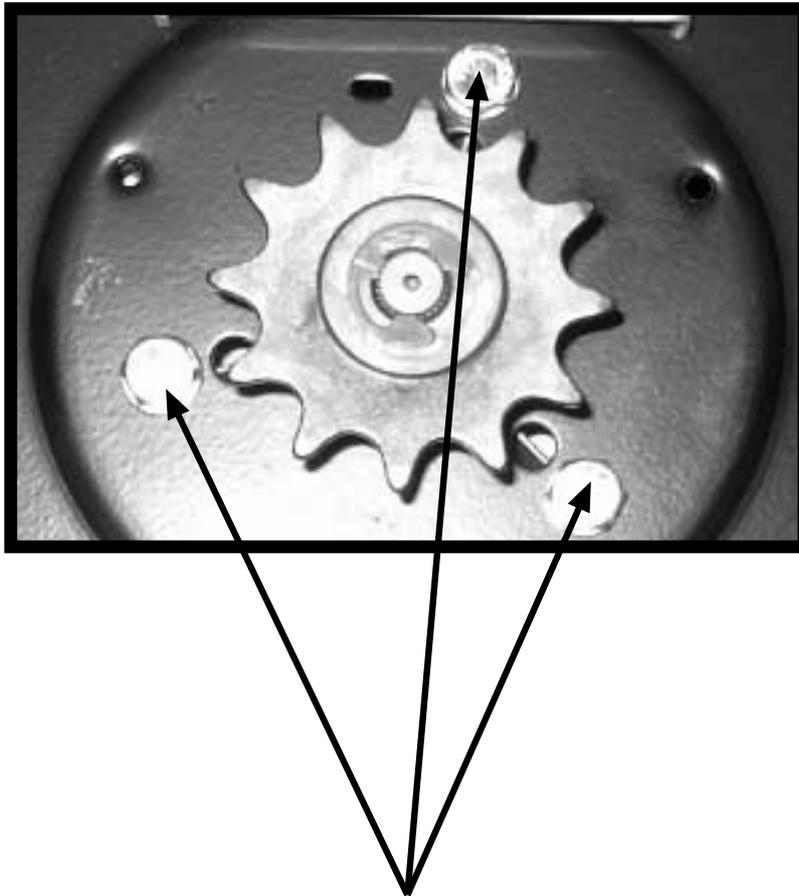

FIGURE 22 Motor replacement
6. Remove the motor mounting screws (3 screws - see figure 22).